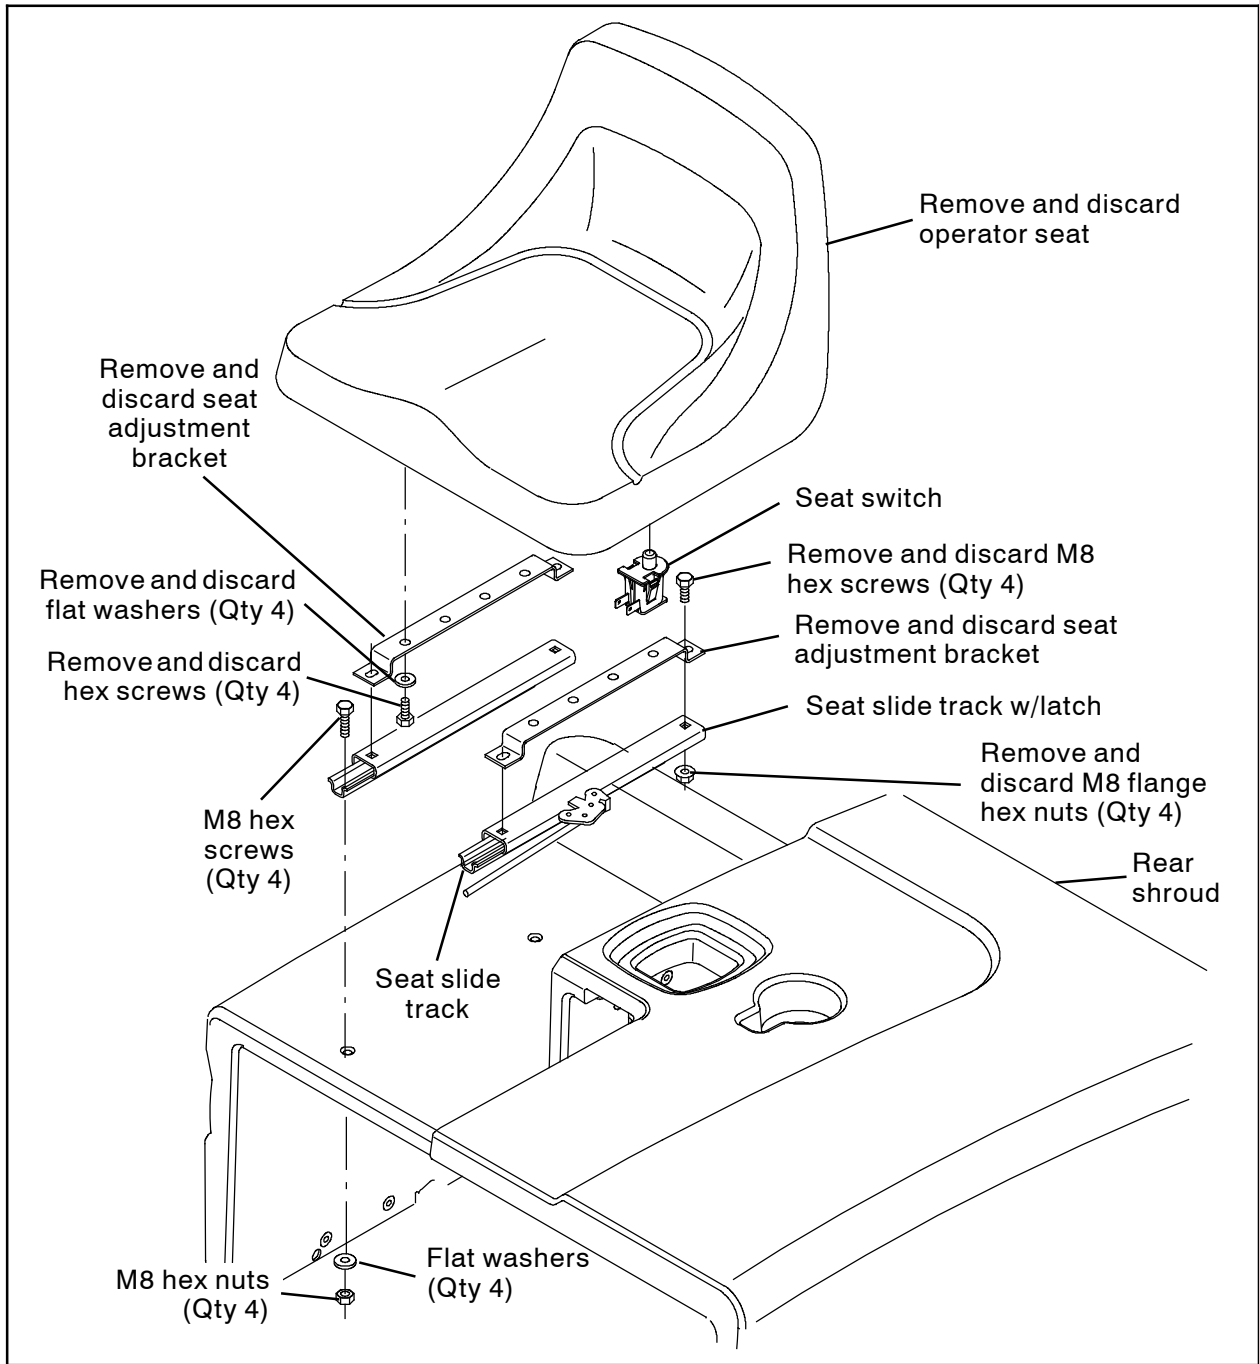

FIG. 1
1. Open the rear shroud to access the hardware securing the operator seat assembly to the rear shroud. (Fig. 1)
2. Remove the four M8 hex nuts and four washers securing the operator seat assembly to the rear shroud. Set the M8 hex nuts and flat washers aside. (Fig. 1)
3. Lift the operator seat from the rear shroud and disconnect the main wire harness from the seat switch. (Fig. 1)
4. Remove the seat switch from the operator seat. Set the seat switch aside. (Fig. 1)
5. Set the four M8 hex screws used to secure the operator seat to the rear shroud aside. (Fig. 1)
6. Remove the seat adjustment brackets from both seat slide tracks. Discard the M8 hex screws and M8 flange hex nuts. (Fig. 1)
7. Remove the seat adjustment brackets from the operator seat. Discard the four flat washers, four hex screws, seat adjustment brackets, and operator seat. (Fig. 1)
10. Connect the seat wire harness (3) to the main wire harness. (Fig. 1)
11. Place the operator seat assembly onto the rear shroud and connect the seat wire harness (3) to the seat switch.